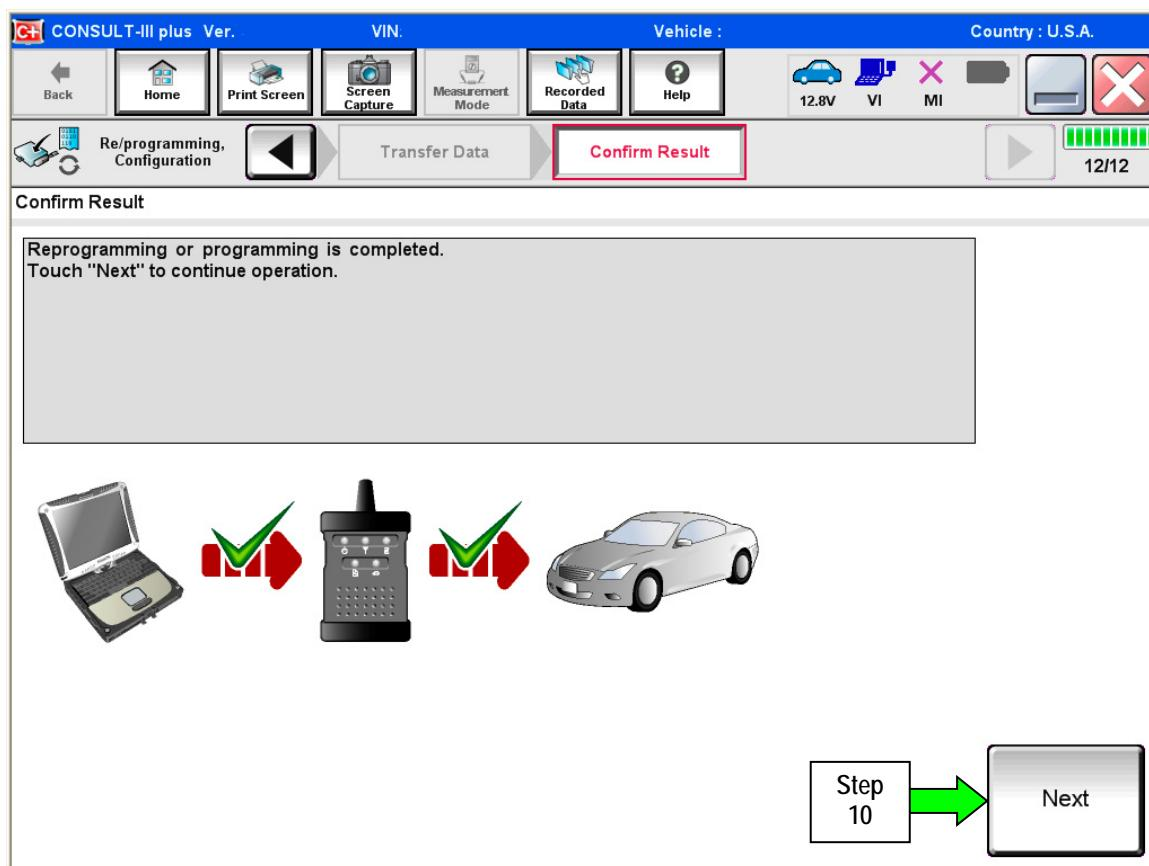

Figure 4
8. When the screen in Figure 4 displays, reprogramming is complete.
NOTE: If the screen in Figure 4 does not display (reprogramming does not complete), refer to the information on page 9.